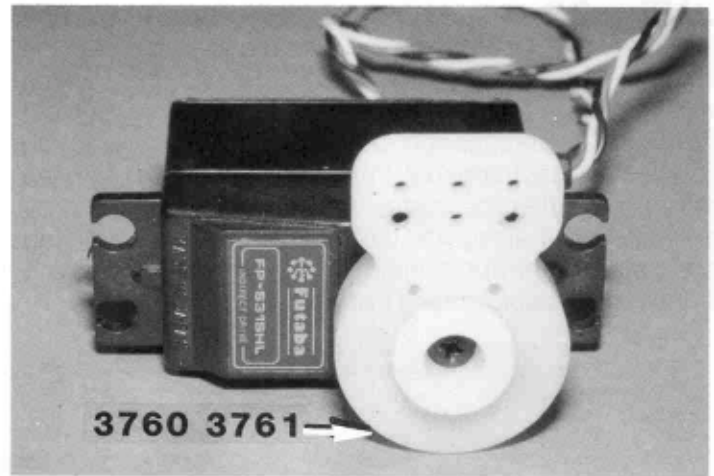

Fig. 69
□ **Fig. 69**— **RADIOS.** There are a number of very good radios on the market now, including Futaba, Airtronics, and others. If you're a serious racer, we recommend that you do not merely get the cheapest radio possible; you'll end up with interference problems at races. Instead, invest in a better grade radio. As for crystals, the 27 band has the best performance; unfortunately, there are only six frequencies available. The 75 band is becoming popular because there are so many frequencies available.
Now refer to Fig. 69. Take your steering servo from Bag #9 and slip the servo saver on it as shown. Now, turn the servo saver all the way to the left with your fingers and then all the way to the right to the stops. You want to mount the servo saver so that it's right in the middle of the stops, as shown. Then screw in the servo shaft screw.